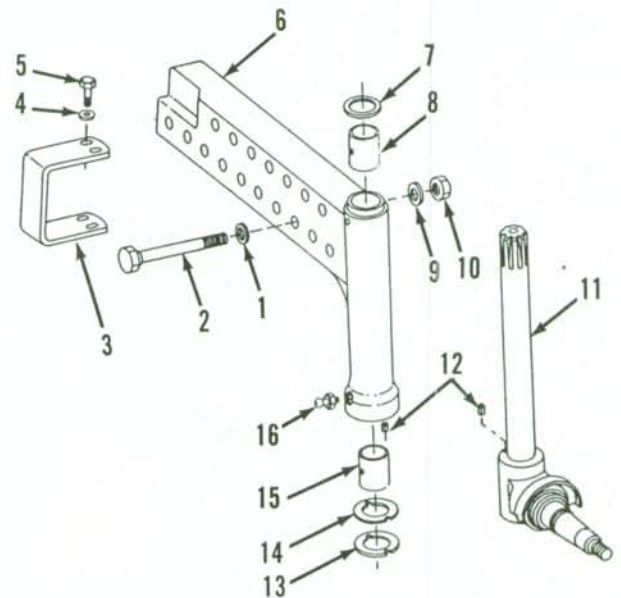
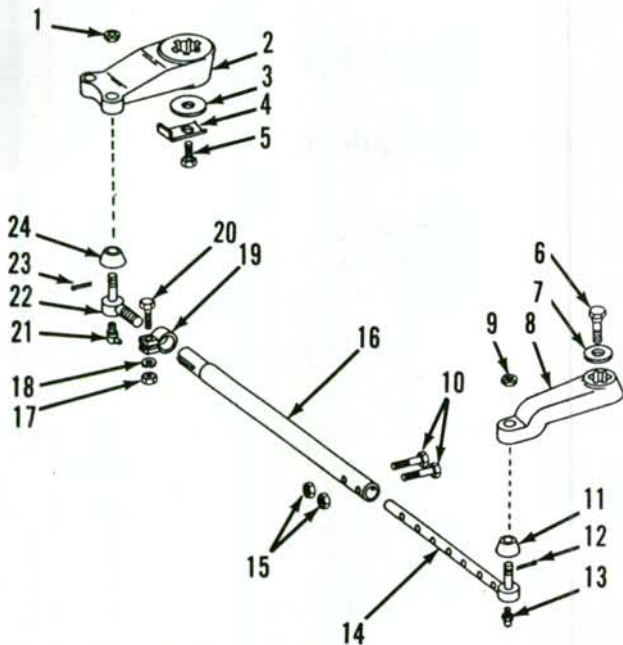

Fig. 2—Exploded view of axle extension, spindle and relative components.
Fig. 3—Exploded view of right tie rod assembly and relative components. Left tie rod is identical.
**2. REMOVE AND REINSTALL.** To remove spindle (11—Fig. 2), first remove wheel and hub as outlined in paragraph 1. Disconnect tie rod end (14—Fig. 3) from steering arm (8). Remove cap screw (6) and washer (7) from top of spindle, then remove steering arm (8) and shim (7—Fig. 2). Lower spindle (11) out of axle extension (6). Thrust washers (13 and 14) will be removed with spindle. Clean and inspect all parts
of tie rods is obvious after examination of the units and reference to Fig. 3.